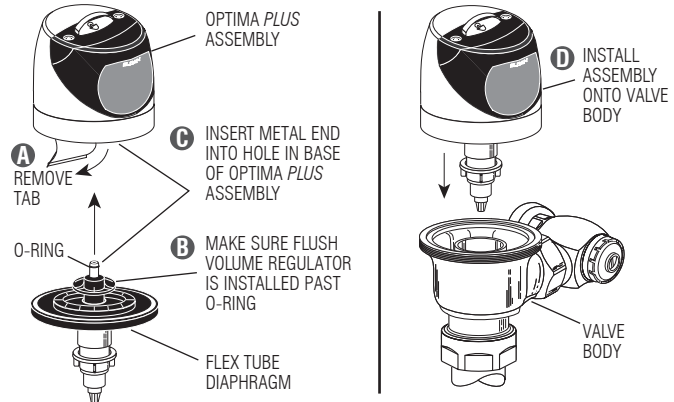

Figure 9
Step 7 — Assemble Flex Tube Diaphragm to Optima Plus Assembly (Figure 9)